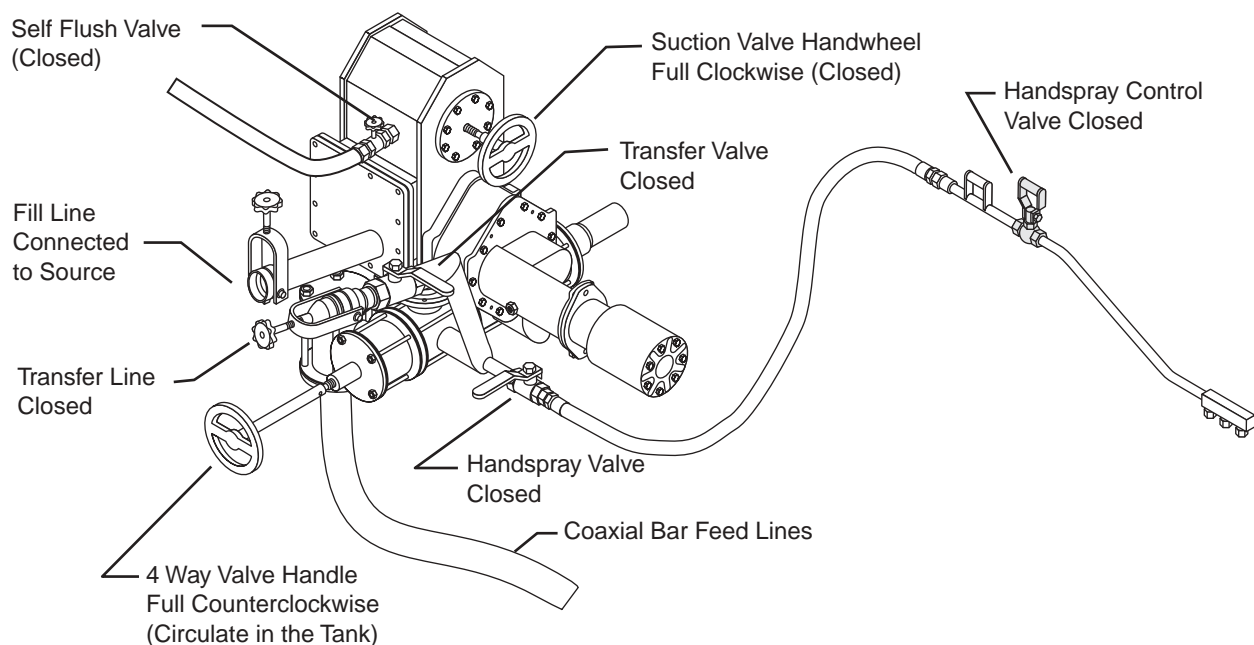

Figure 1. Valve Positions for Filling
1. Set all of the valve positions (see Figure 1).